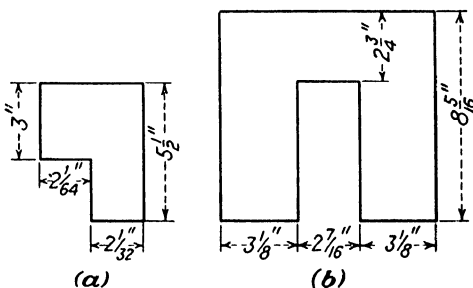

Fig. 50.
2. Find the perimeter of each of the figures in Fig. 50. All dimensions are in inches.